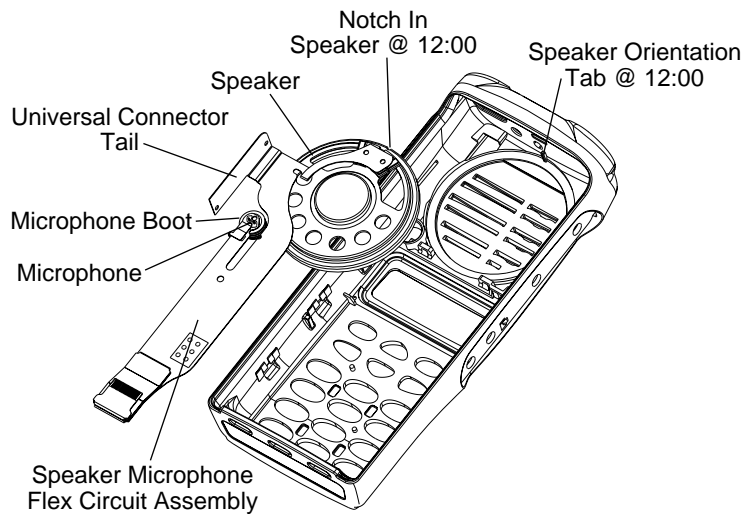

Figure 3-8 Removal Speaker-Microphone Assembly
4. Align the notch in the speaker at the twelve o'clock position with the tab on the front cover. (See Figure 3-8.)